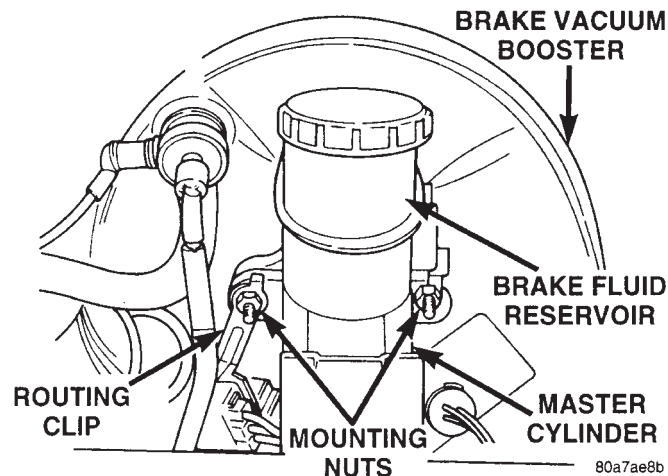

Fig. 96 Master Cylinder Mounting
(9) Remove the 2 nuts (Fig. 96) attaching the master cylinder assembly to the power brake vacuum booster.
(10) Remove the routing clip and chassis brake tubes (Fig. 96) (as an assembly) from the mounting stud for the master cylinder.
(6) Install the routing clip and chassis brake tubes (Fig. 96) on the inboard mounting stud for the master cylinder.
(7) Install the 2 master cylinder to power brake unit mounting nuts (Fig. 96). Tighten the 2 mounting nuts to a torque of 28 N·m (250 in. lbs.).